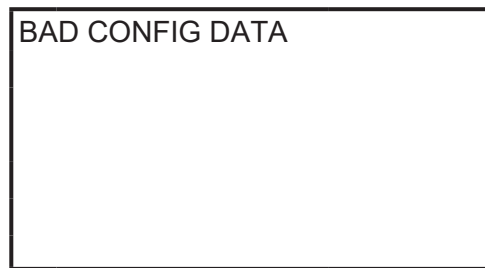
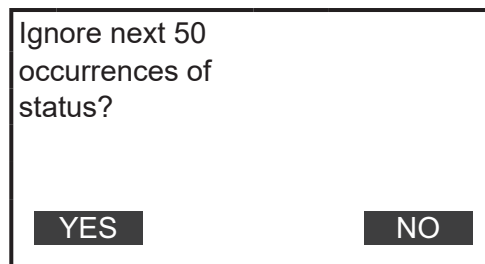

Figure 57 Error
Figure 58 Inquiring to ignore error
If an error is transmitted to the HART Communicator while the device status is being displayed, the HART Communicator's will display a transmitted error as shown in Figure 57.
By pressing F3 (NEXT), the transmitted error can be read. By pressing F2 (PREV), the previous error is displayed. Keep pressing F3 (NEXT) to view all the errors that occurred. The last display will be that as shown in Figure 58.
By pressing F1 (YES) here, up to fifty errors will be ignored and will not be sent to HART Communicator. HART Communicator's display will be as shown in Figure 56. Thus the condition of the device can be verified by using the device setup function until the 51st error is sent. However, once the 51st error has been transmitted, the display as shown in Figure 57 will pop up. Since an error experienced by the converter is always transmitted to the HART Communicator, display shown in Figure 57 will reappear even if no action is taken in the display shown in Figure 56.
If F2 (NO) is selected in Figure 58, the HART Communicator's display will change to that shown in Figure 56. However, unless the device is set back into its normal condition, the display shown in Figure 57 will appear immediately upon the next error message from the converter.